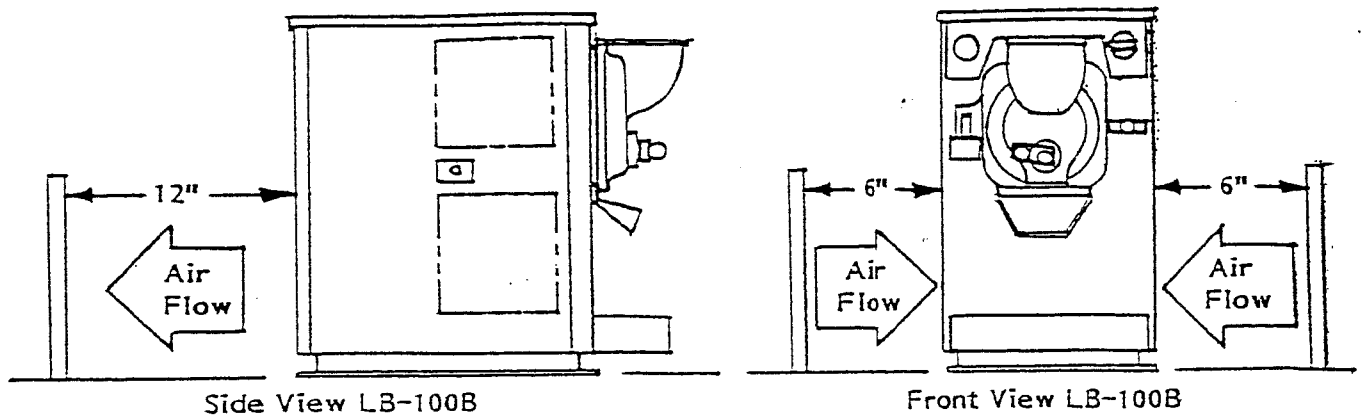

FIGURE 1
1. The machine is now ready to be positioned onto your counter. The counter must be capable of supporting 225 lbs., and should be vibration free. Reinforce it if necessary. Remember, when choosing a location, your unit is air cooled, proper air flow will need to be maintained. Allow at least six (6) inches on either side and a minimum of twelve (12) inches between the rear of the machine and any obstruction. (Ref. Fig. 1)